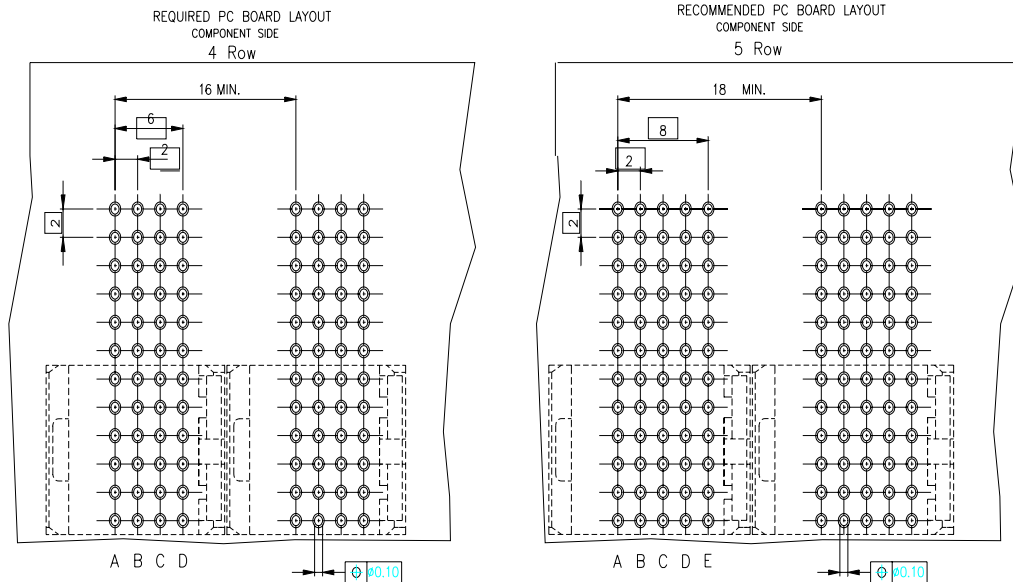

Figure 7 - Required board layout for press fit vertical header. (All dimensions in mm)
- Refer to Figure 7 for PCB layout.